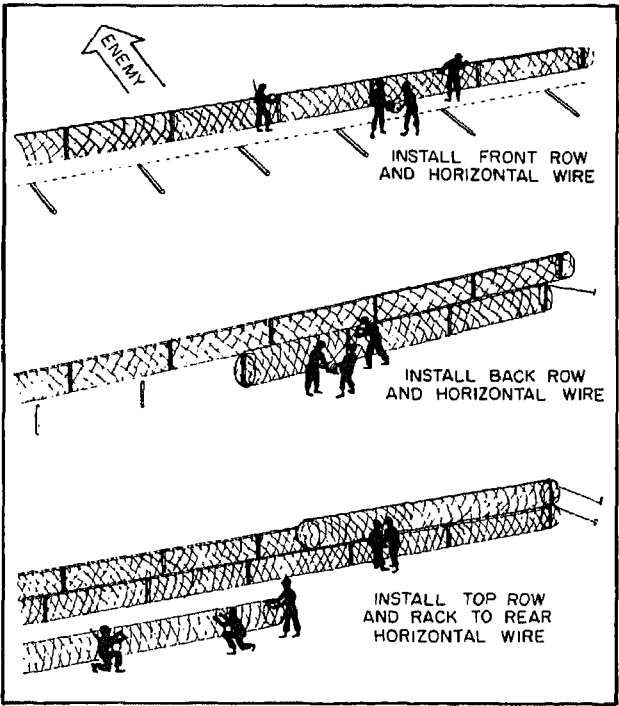

Figure 9-52.—Installing concertina.
As they complete the first operation, organize all men in four-man parties (fig. 9-52) to open and install concertinas, beginning at the head of the fence. The sequence, shown in general in figure 9-52, is as follows:
6. Install the concertina in the top row (fig. 9-52), fastening the end hoops of 50-foot sections with plain steel wire ties. Begin this row at sections with plain steel wire ties. Begin this row at a point between the ends of the front and rear of the lower rows, thus breaking all end joints.